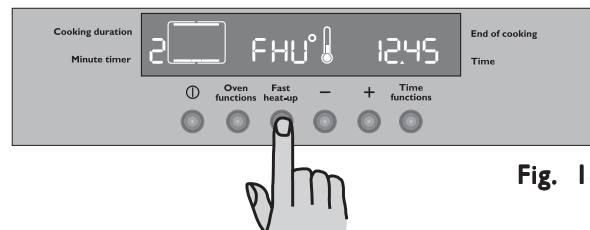

Fig. 18
- 1) Switch the oven on by pressing button ①.
- 4) Press button Fast heat up. The temperature display will show "FHU" (Fig. 18).